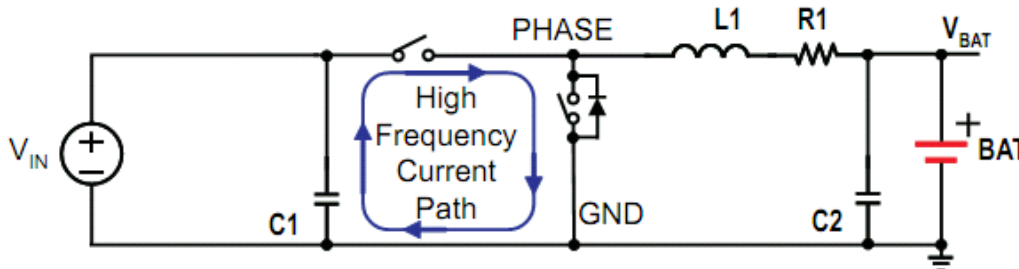

Figure 21. High Frequency Current Path
The switching node rise and fall times should be minimized for minimum switching loss. Proper layout of the components to minimize high frequency current path loop (see Figure 21) is important to prevent electrical and magnetic field radiation and high frequency resonant problems. Here is a PCB layout priority list for proper layout. Layout PCB according to this specific order is essential.
4. The charging current sensing resistor should be placed right next to the inductor output. Route the sense leads connected across the sensing resistor back to the IC in same layer, close to each other (minimize loop area) and do not route the sense leads through a high-current path (see Figure 21 for Kelvin connection for best current accuracy). Place decoupling capacitor on these traces next to the IC.